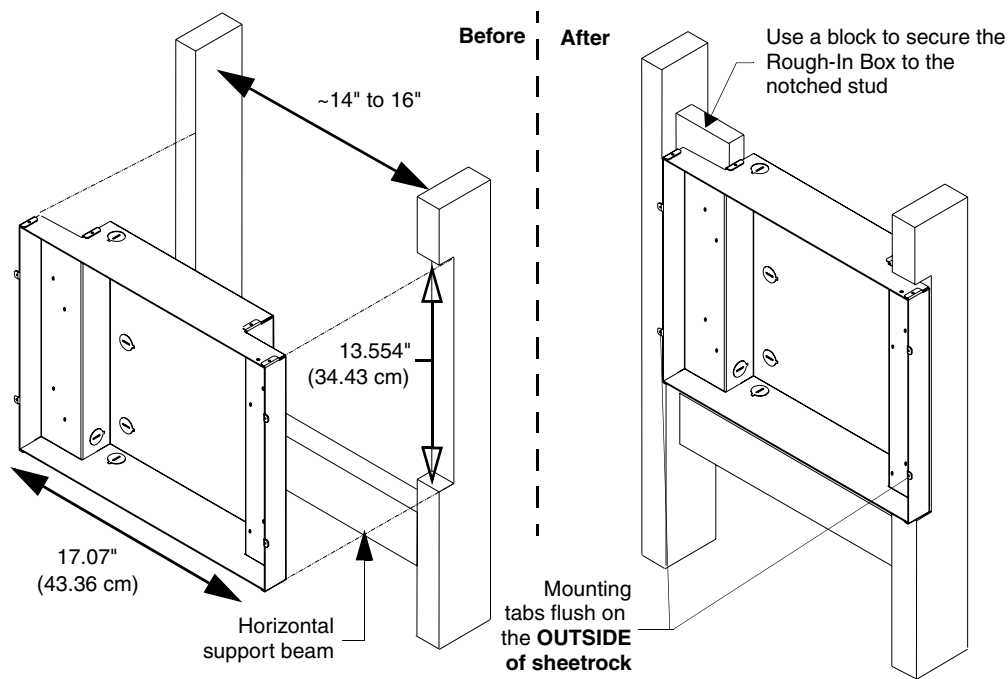

FIG. 2 CB-TP17 Rough-In Box installation into a notched stud (showing before and after installation)
2. Determine whether one or both of the selected stud beams must be notched (FIG. 2). The determining factor is the flush alignment of the mounting tabs along the outside of the post-wall sheetrock.
3. Cutout the notched beam using a height of 13.554" (34.43 cm) (as shown in FIG. 2) and a depth **equal to the thickness of the drywall**.